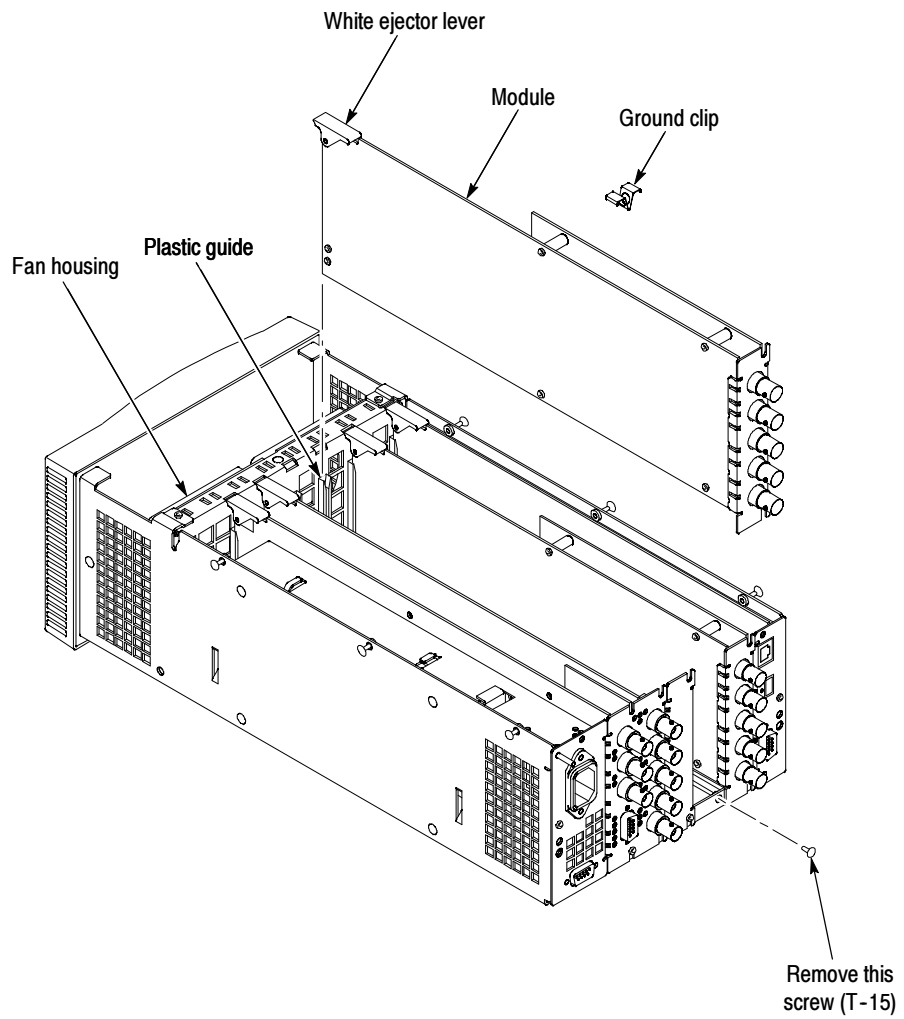

Figure 3: Inserting the new module into the chassis, second video module shown
- c. Prepare to insert the module by lining it up with the plastic guide toward the front of the instrument and by placing the white ejector lever in the down position, level with the module. See Figure 3.